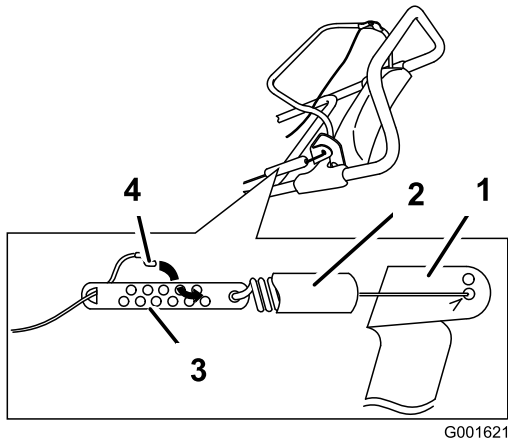

Figure 21
1. Unhook the spring end from the control bar bracket. (Figure 21).
2. Slide the spring cover up the cable adjuster. (Figure 21).
3. Unhook the Z-fitting from the cable adjuster, and position it in a different hole on the adjuster to obtain a gap of 1/8 to 1/4 inch (3 to 6 mm) between the control bar bracket and the handle (Figure 21).